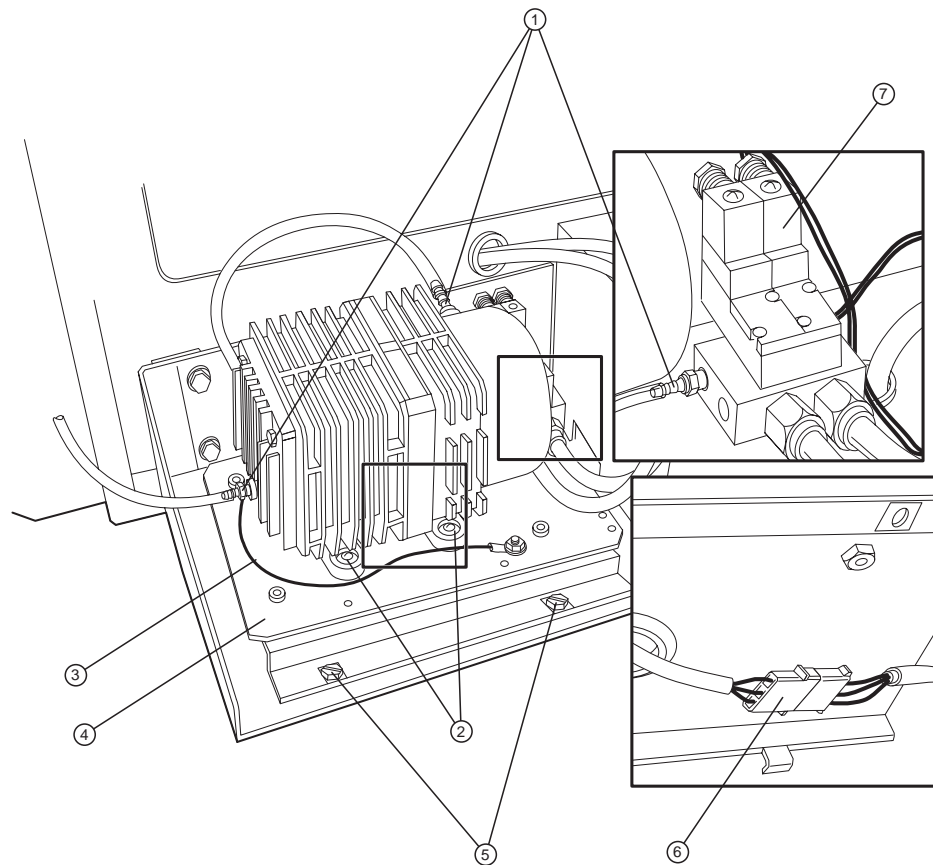

Figure 4-49 Vacuum pump.
2. Remove the two (2) tubing fittings from the pump. Refer to Figure 4-49.
3. Using a flathead screwdriver, remove the two (2) mounting plate screws. Refer to Figure 4-49. Remove the plate with the pump on it.
4. Using a phillips screwdriver, remove the screw holding the grounding wire in place. Refer to Figure 4-49.
5. Turn the pump on its side and disconnect the connector at the bottom of the plate. Refer to Figure 4-49.